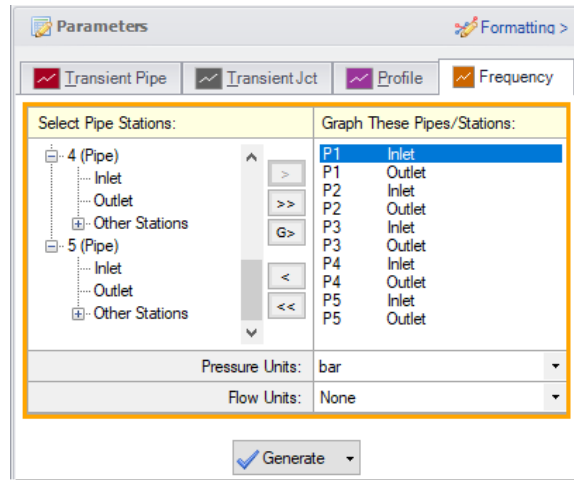

Figure 4: Graph Parameters section for the frequency analysis
2. Select the Frequency tab in the Graph Parameter section of the Quick Access Panel (Figure 4)